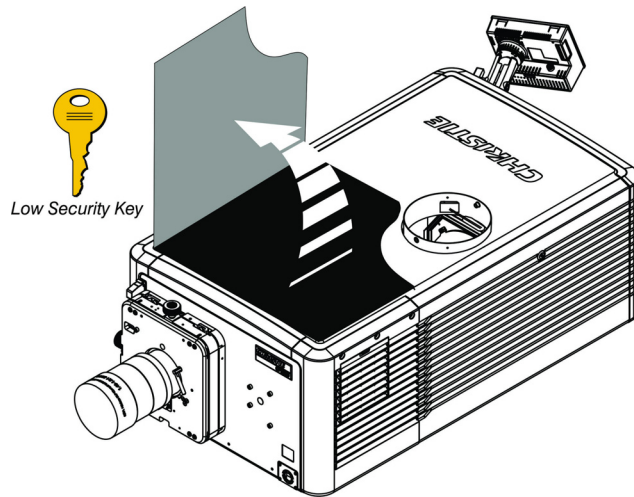

Figure 1 Remove top Lid from Projector
1. Use the low security key to unlock the front top lid(Figure 1).